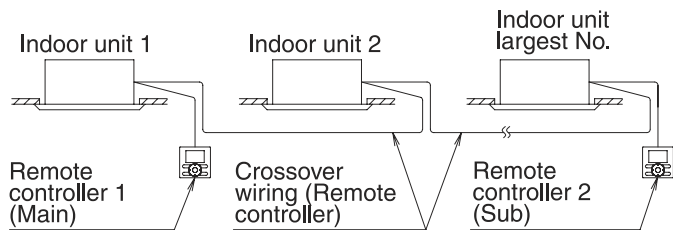

Fig. 25
- When using the group control and the 2 remote controllers control at the same time, connect the remote controller 2 (Sub) to the indoor unit at the end of the crossover wiring (the largest No.). (Refer to Fig. 25)